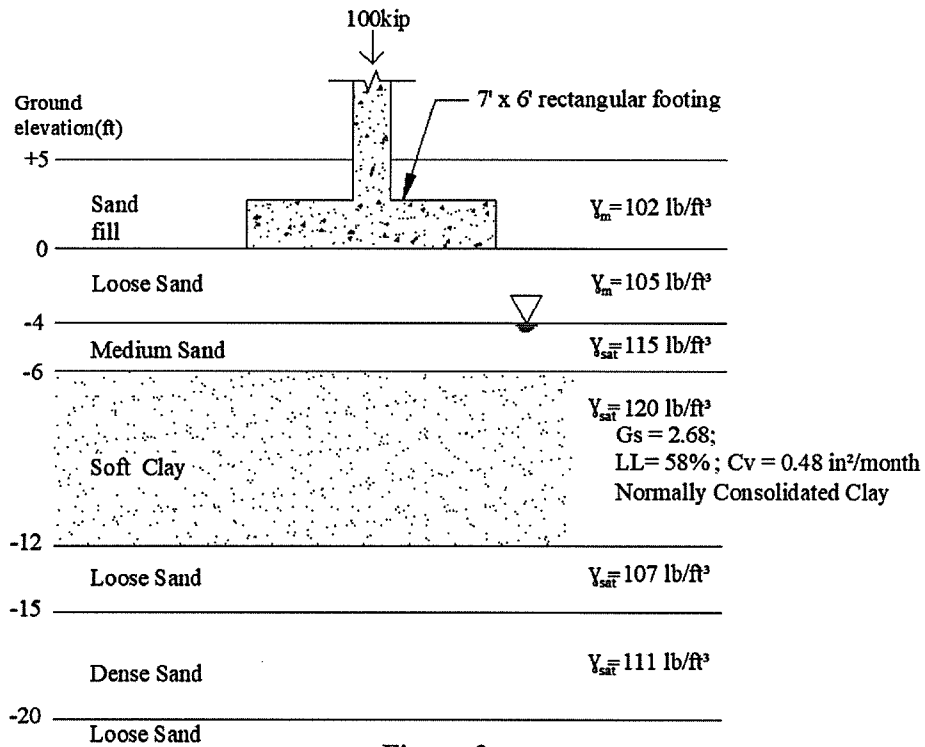

Figure-2
- A footing is placed on a sandy layer underlying successive sand and clay strata with properties shown in Figure-2.